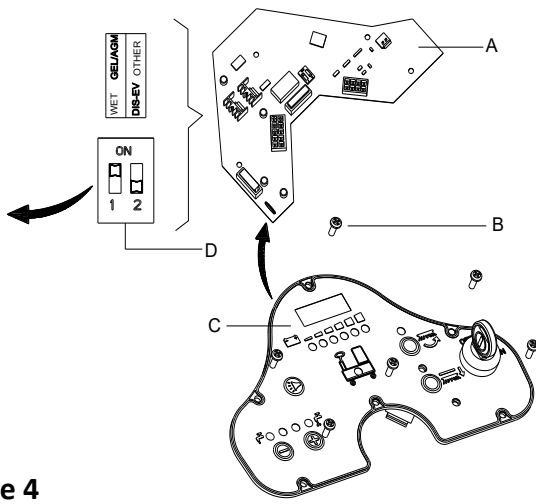

Figure 4
When install new batteries, follow Figure 4 to set DIP switch, or batteries may be damaged by wrong setting.
1. Insert key switch (40) and turn to "ON", pay attention to below during the first seconds of machine start:
- If the green light (37) flash, machine is set up to use GEL/AGM batteries.
- If the yellow light (33) flash, machine is set up to use Discover EV AGM batteries.
- If the red light (32) flash, machine is set up to use WET batteries.
4. Unscrew the screw (B, Figure 4) on control panel, then turn over the PCBA (A) on the panel to find DIP switch (D), follow Figure 4 for DIP settings.